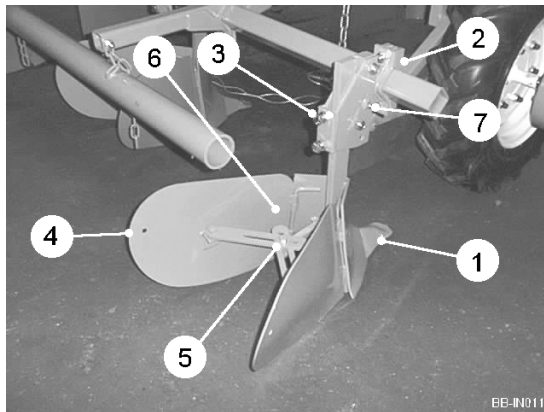

Fig 11
The ridger bodies (item 1, fig 11) create the sides of the bed. The position of the ridger bodies can be adjusted by loosening the retaining bolts (item 2, fig 11) and sliding the ridger units along the tool bar.
The height of the ridger bodies can be adjusted by loosening the retaining bolts (item 3, fig 11) and then raising or lowering each unit. The angle at which the ridger bodies operate can be altered in the same way. To adjust, loosen one bolt and then tighten the other. Which bolt to tighten and which to loosen depends on the required direction of tilt. The wings (item 4, fig 11) can be adjusted by loosening the securing bolt (item 5, fig 11) and pulling them apart or pushing them together. In addition, the wings on some ridgers can be raised or lowered by loosening the bolt (item 6, figure 11). The lower the wing is positioned, the less soil will be lifted. Each ridger body is protected by a shear bolt (item 7, fig 11). If the ridger hits an obstruction the bolt will break and allow the ridger body to swing backwards so avoiding any serious damage to the machine.